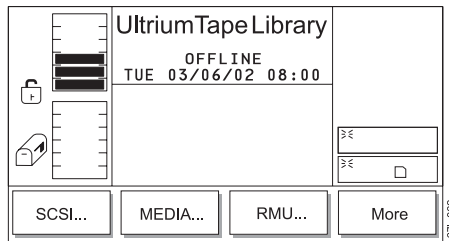

Figure 4-204. Library Submenu
2. Press the button below the **Library** softkey. The Library Submenu displays (see Figure 4-204).
6. Press the button below the **OK** softkey. The library reinventories the cartridges and returns to the Library Submenu (see Figure 4-204 on page 4-111).